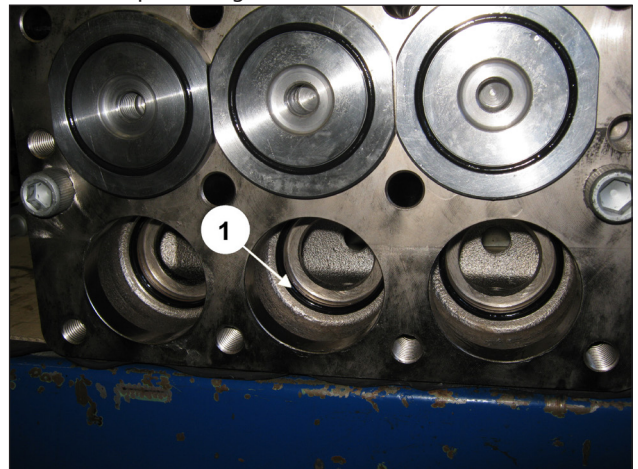

Fig. 136
Ensure that the O-ring and back-up ring are perfectly lodged in their seat (pos. ①, Fig. 136).